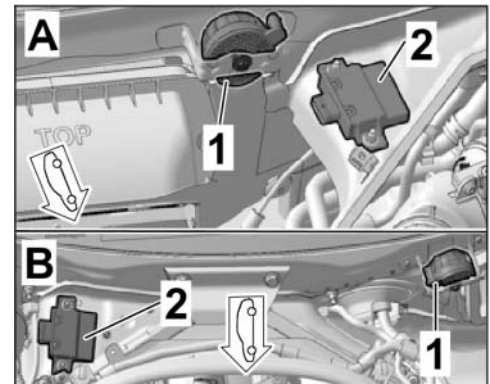

Figure 7
– Installation positions on LHD vehicle (⇒ *Figure 7 -A-*)
2.1 Position engine noise control unit on M6 studs (2 x) in the plenum panel and secure with two M6 hexagon nuts (2 x) (⇒ *Figure 7*).
2.2 Guide pin on underside of engine noise pulse sender into the bore on the holder in the plenum panel. Secure engine noise pulse sender, **facing the windscreen**, with an M6 hexagon nut (1 x) in the plenum panel holder (⇒ *Figure 7*).